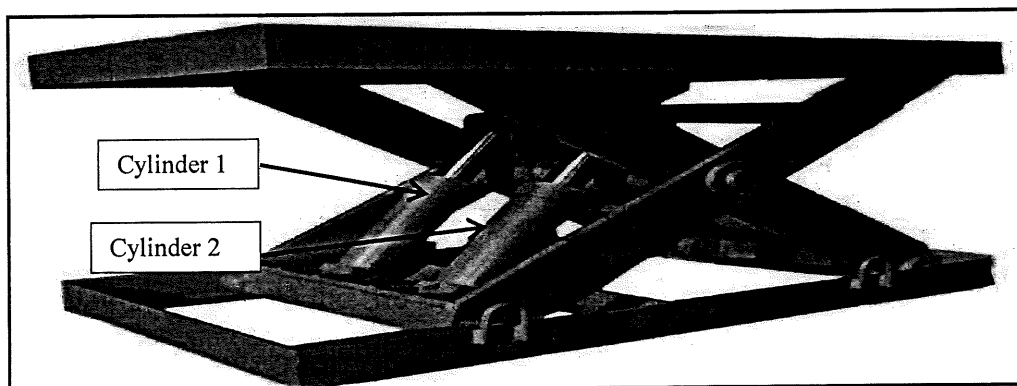

Figure 3
b) Figure 3 shows a hydraulic car lifting machine, when the 4/3 way valve is activated to the right the two cylinders (cylinder 1 and cylinder 2) will extend and if the 4/3 way valve is activated to the left, the two cylinders will be retracted, and if the 4/3 way valve is centered position, the two cylinders will stop at any positions. The purpose of using a 4/3 valve neutral at mid position is to allow the machine to stop where the desired position.